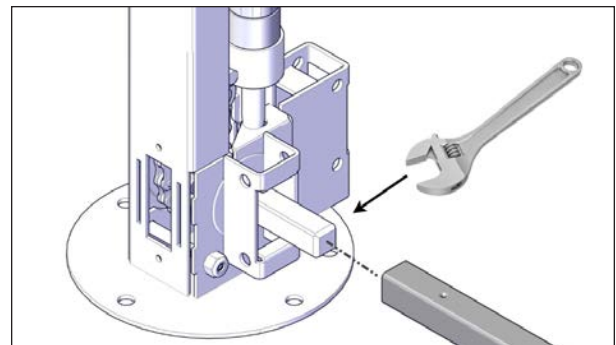

FIGURE 37: DRIVE SHAFT INSTALLATION
9. Hold the left-hand non-motor-side jack assembly upright and in line with the left drive shaft. Use a 3/4" adjustable wrench to carefully rotate the square shaft of the jack to align with the drive shaft, see Figure 37.